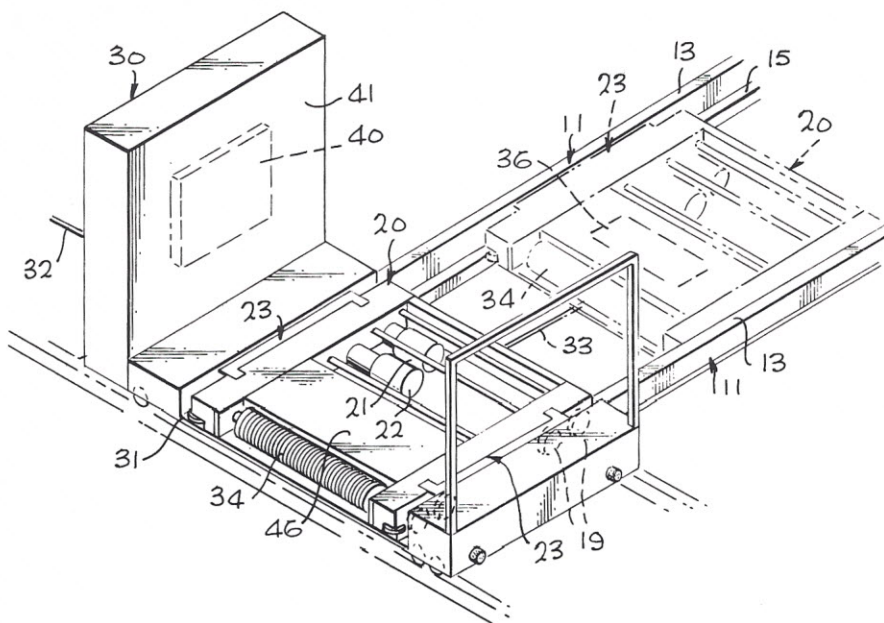

Figure 2. A close-up view of the transport and pallet vehicles.
As shown in figure 2, each pallet vehicle has a motor (21) for driving wheels (19). A second motor (22) operates the pallet lifting mechanisms (23) which raise and lower the pallets.